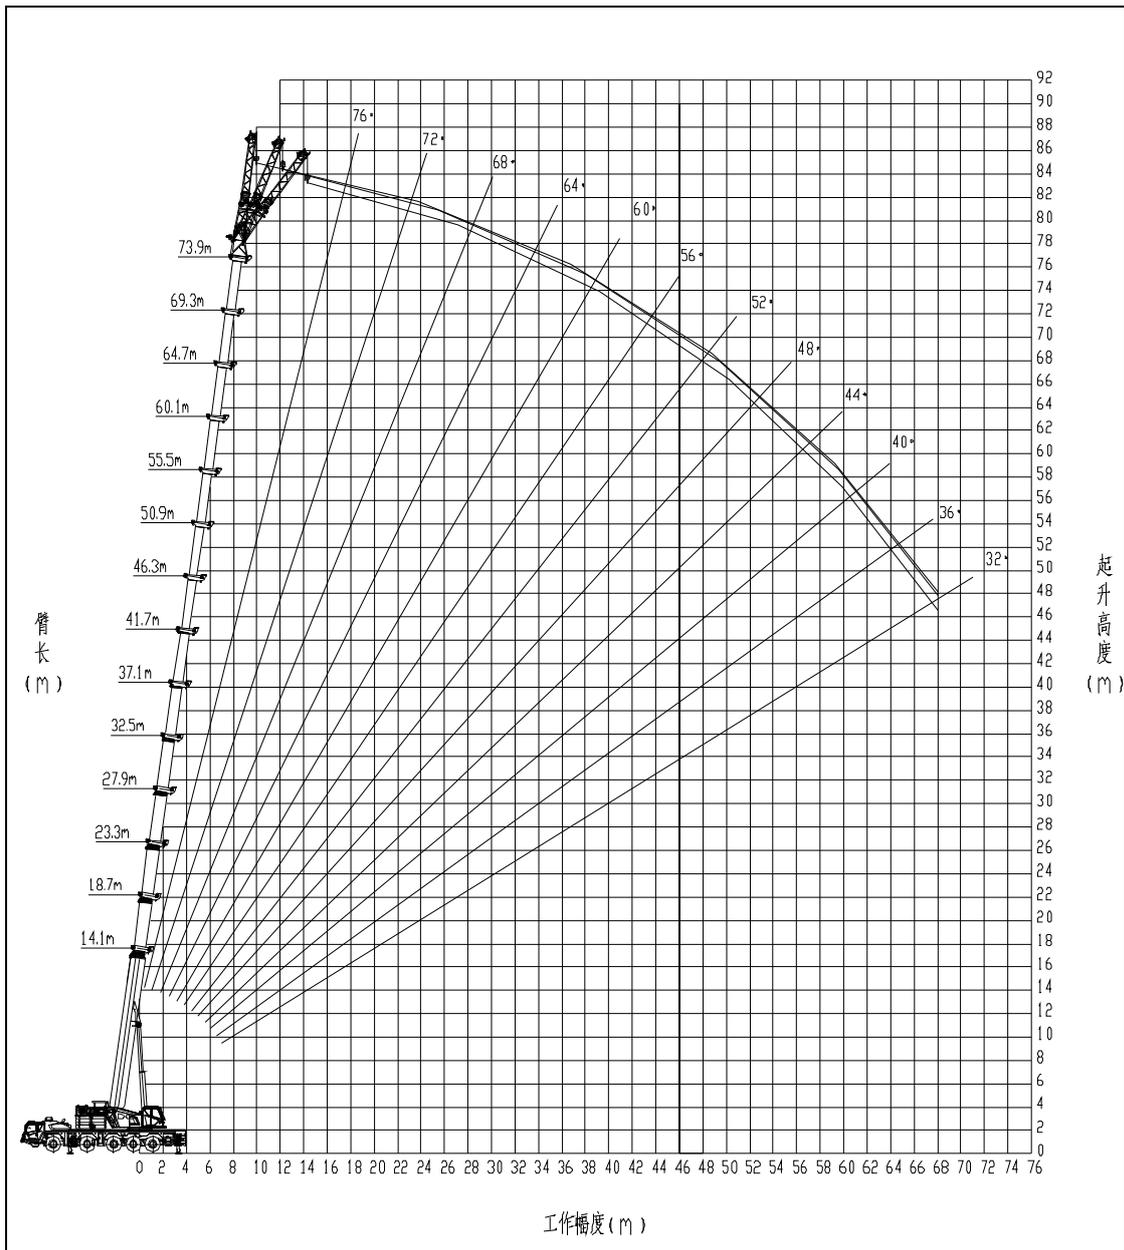

Figure 1-16 73.9 m main boom + jib variant 1 (10.4 m)
- a) For the lifting height chart for 73.9 m main boom + jib variant 1 (10.4 m), refer to Figure 1-16.